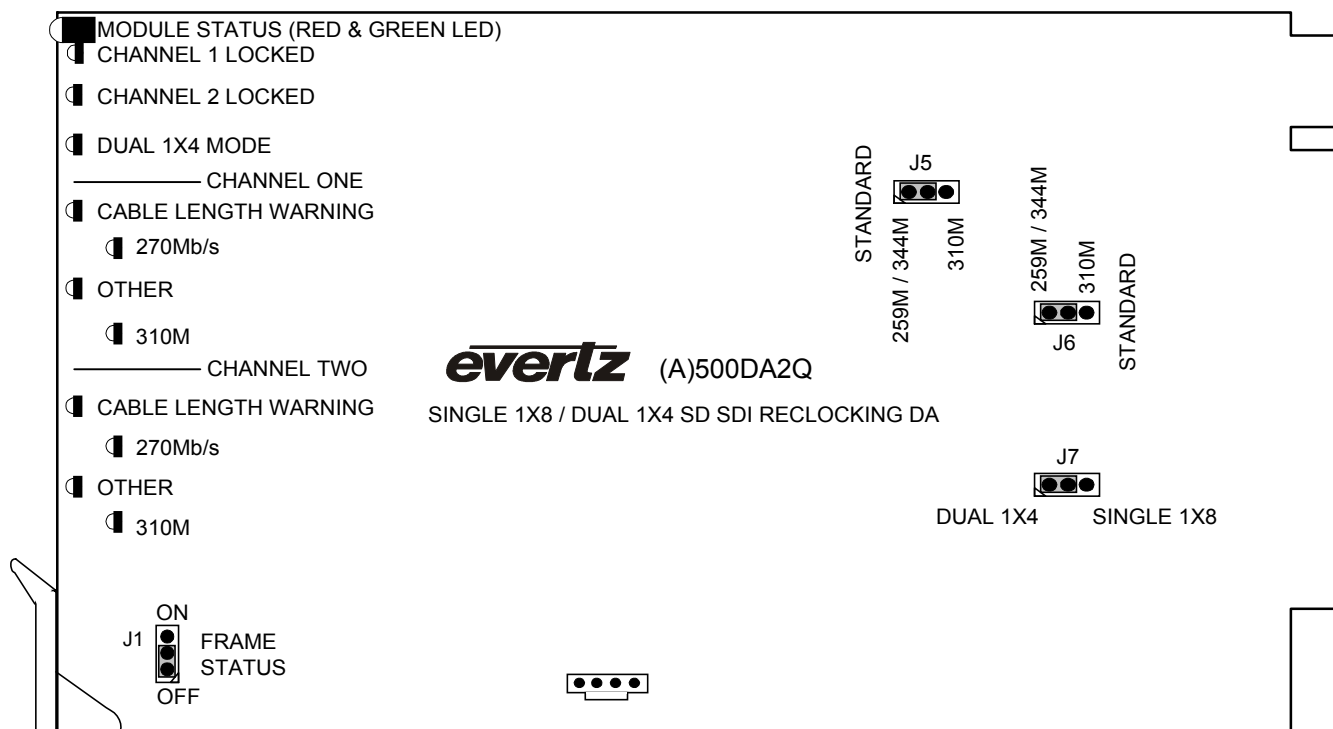

Figure 3: LED and Jumper Locations
OUT 1B to 4B These four BNC connectors can be configured to output reclocked serial component video from IN (A) when jumper J7 is set to SINGLE 1x8 mode. When jumper J7 is set to DUAL 1x4 mode, these connectors output reclocked serial component video from IN (B) See Figure 3 for the location of J7.
The 500DA2Q has thirteen LED Status indicators on the front card edge to show operational status of the card at a glance. Figure 3 shows the location of the LEDs.